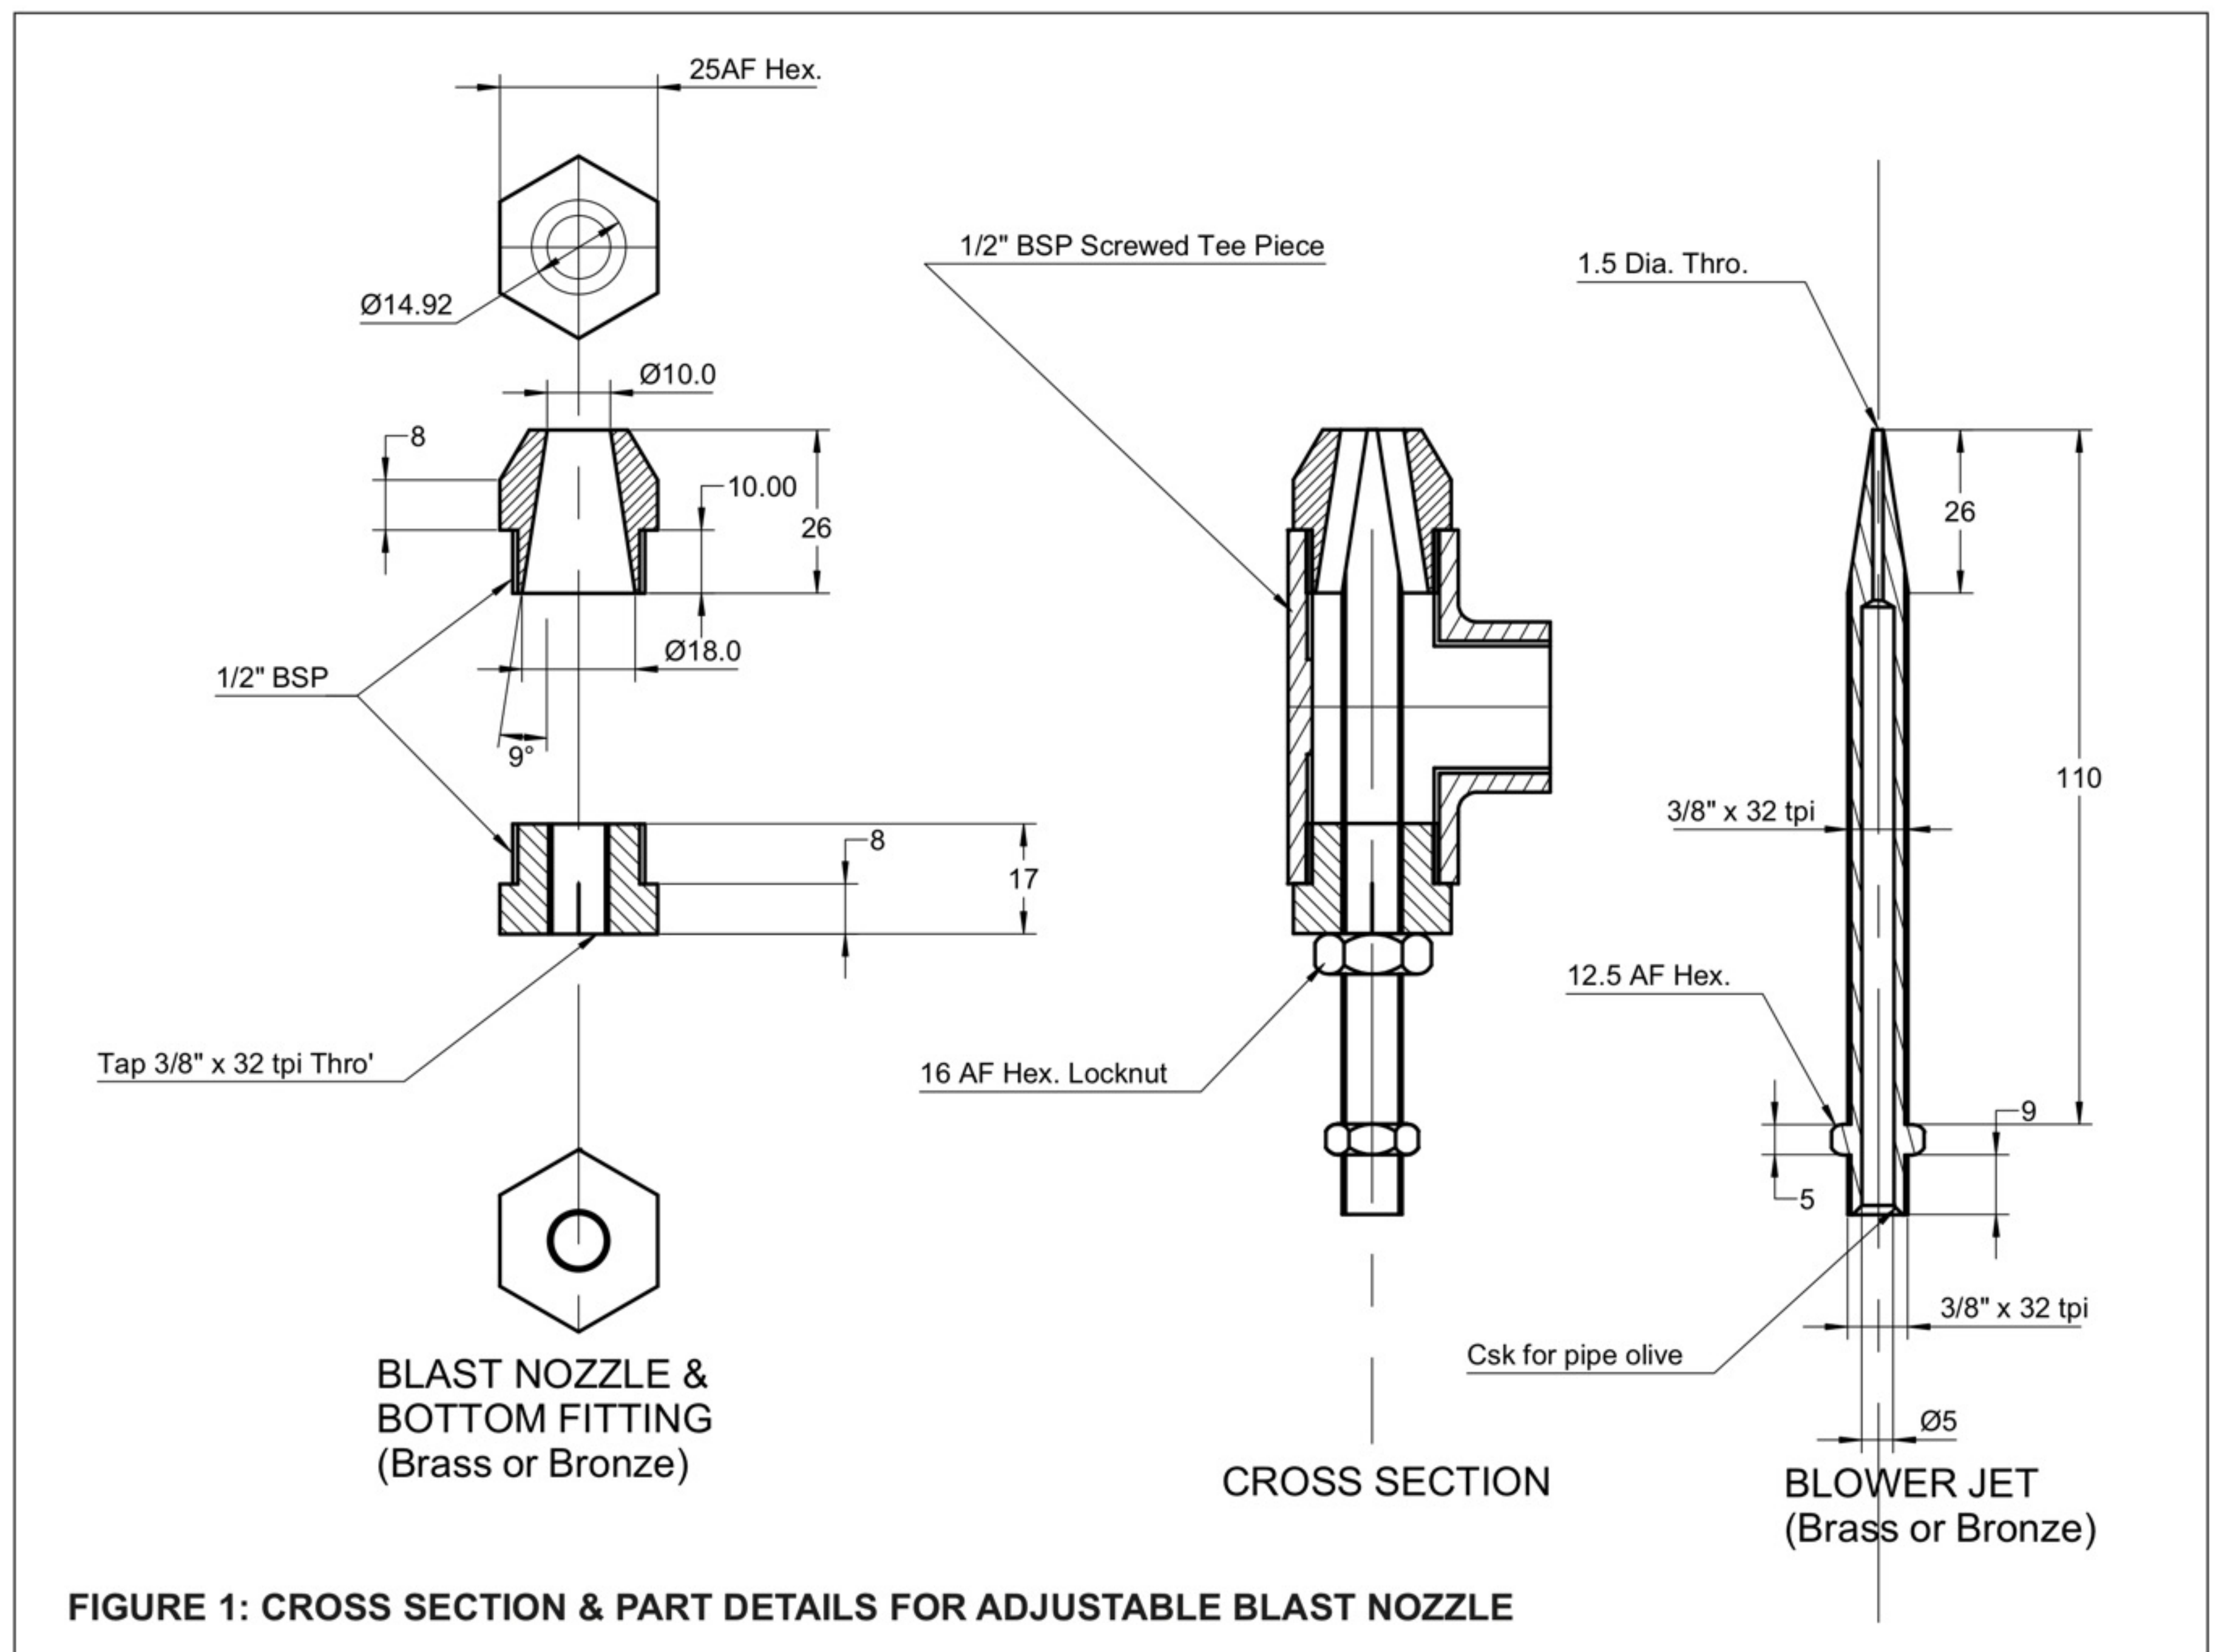

FIGURE 1: CROSS SECTION & PART DETAILS FOR ADJUSTABLE BLAST NOZZLE
In an attempt to overcome some of these problems, I came up with the arrangement shown in Figure 1. I have used a Tee piece instead of the usual 90° bend. The blower enters from the bottom of the Tee and is arranged to partially block the blast nozzle – depending on the axial position of the blower jet the blast nozzle size can be varied. The blower position can be adjusted with the engine in steam if necessary. The arrangement ensures an
- Turn the thread for the blast nozzle, but do not bore the taper yet. Screw the tee piece on to this 'mandrel' as it is shown in Figure 1 and face off the end of the tee to clean it up – the ends are not always very square. Reverse the tee piece and face the other end.
Figure 1 is drawn up for use on a 4" scale engine and uses a standard $\frac{1}{2}$ " BSP Tee piece for the body. Other sizes can be scaled to suit. In the smaller scales, it may be preferable to use a copper 'end feed' Tee of suitable size and silver solder the fittings in top and bottom. The components are simple enough, but it is important that concentricity is maintained across the blast nozzle and bottom screwed adapter; I went about it this way: